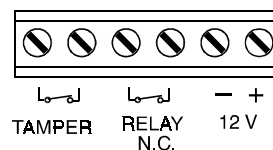

Figure 7. Terminal Block Wiring
B. Using # 22 AWG or larger wires, connect wiring to the terminal block in the following order (Fig 7).